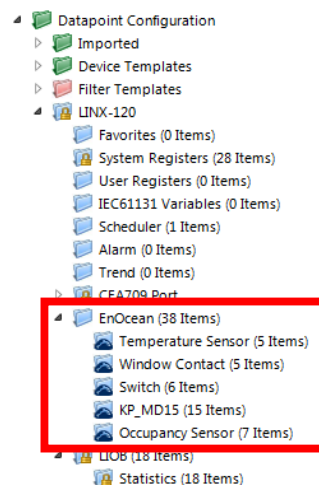

Figure 179: Data Point Manager with EnOcean device folders.
- The folder list (Figure 179),